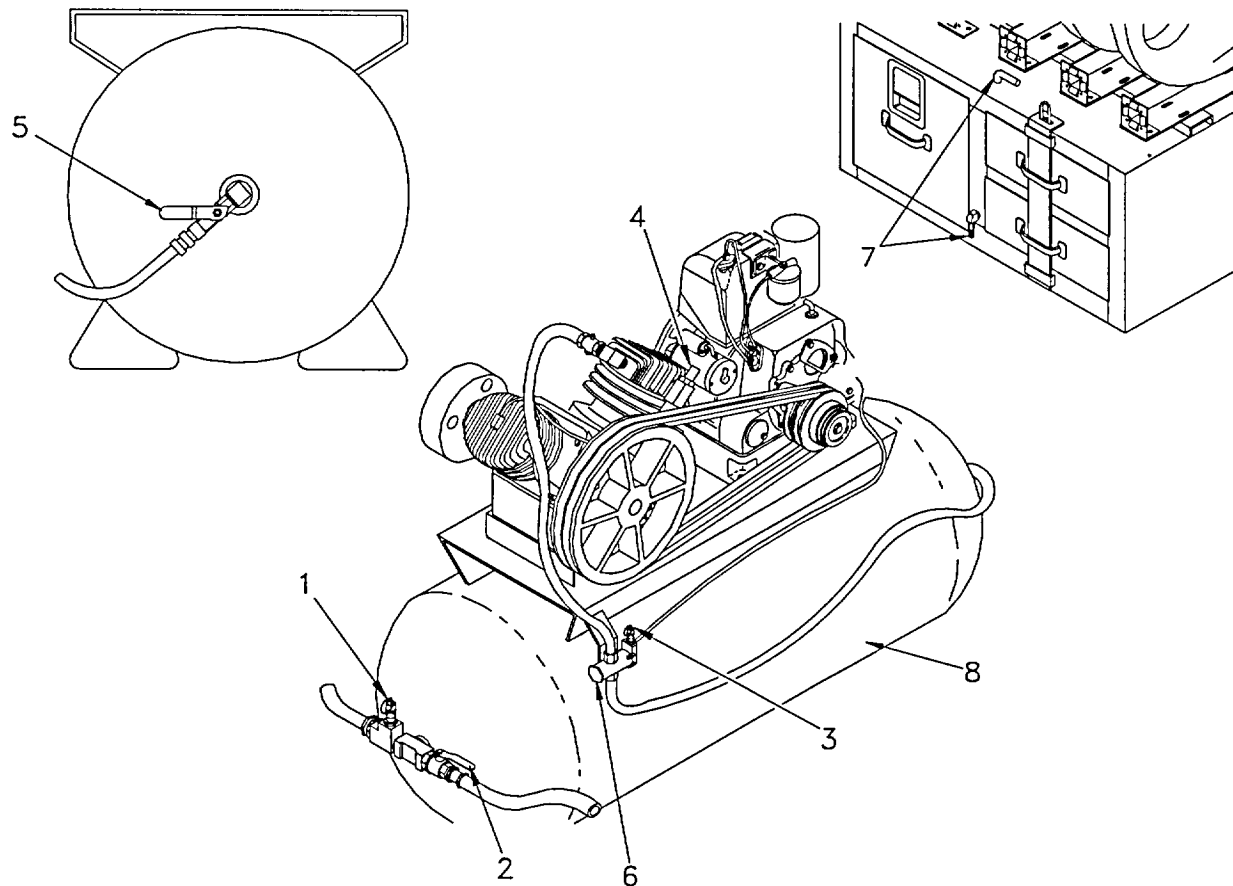
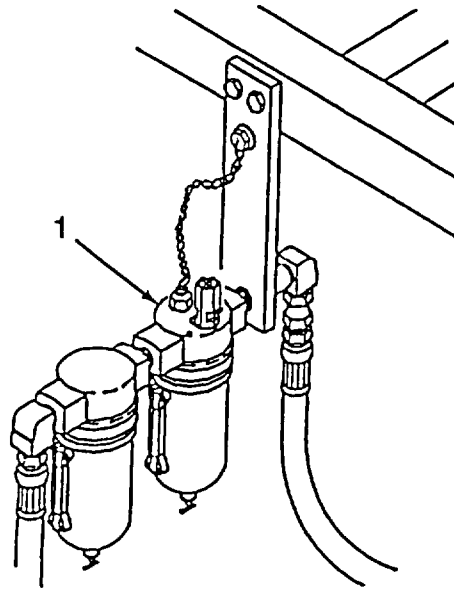

Figure 2-3. Air Compressor Assembly Controls and Indicators
Figure 2-4. Alcohol Injector Control Valve
c. Air Compressor Assembly. (Refer to Figure 2-3).
- (1) Spring-Loaded Pressure Relief Valve (1). An emergency device that relieves air pressure exceeding 200 psi. Without this device the tank could explode.
- (2) Ball Valve (2). Shuts off all air to pumps.
- (3) Adjustable Pressure-Actuated Mechanical Control (3). Stops the compression of air when the receiver tank pressure has reached 175 psig and starts the compression of air when the tank pressure has dropped to 140 psig. Air in excess of 175 psi is released into the atmosphere.
- (4) Spring-Loaded Interstage Pressure Relief Valve (4). Protects the low pressure cylinder of the air compressor in the event of failure of the high pressure cylinder.
- (5) Shut-off Valve (5). When closed, will shut off air to tank and isolate tank from the adjustable pressure-actuated mechanical control (6)
- Automatic Unloading Device (6). Protects the engine from starting against either tank pressure or compression in the compressor cylinders by relieving cylinders of air.
- (7) Condensate Removal Valve (7). Completely drains the tank of all moisture. Drain daily.
- (8) Air Receiver Tank (8). Stores compressed air created by compressor.
- d. Alcohol Injector. (Refer to Figure 2-4).